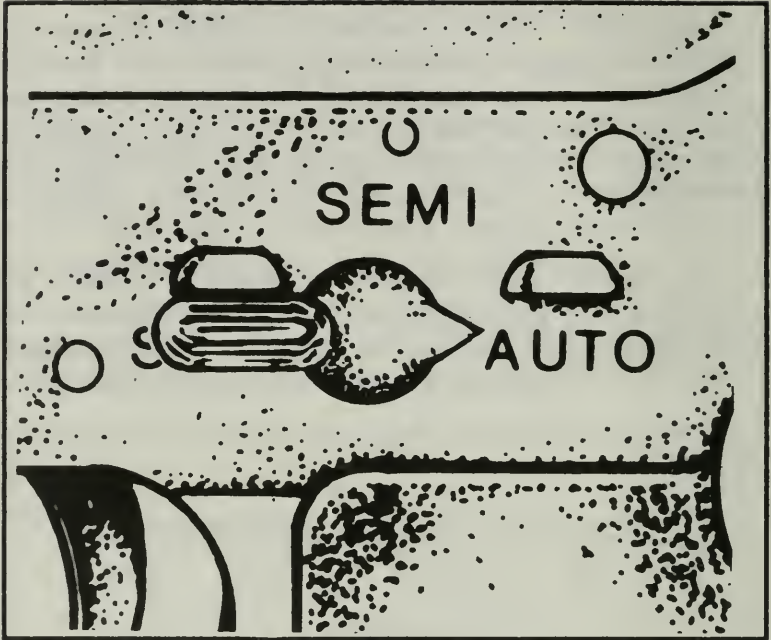

Figure 92. Selector on AUTO.
c. AUTO. Place the selector on AUTO (Figure 92). Pull the charging handle to the rear and release. Pull the trigger and hold to the rear; the hammer should fall. Pull the charging handle to the rear and release.